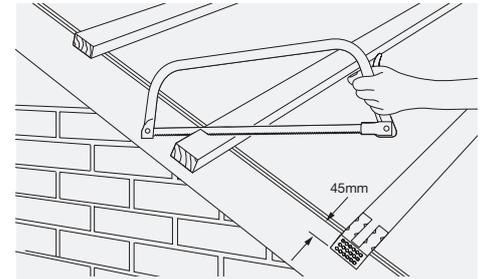

Fig. 1 – Position tiling battens with recommended overhang
- 2 Saw tiling battens off square to overhang bargeboard or brickwork by 50mm and coat the cut ends with a suitable timber treatment (Fig. 1). Install universal batten end clips to the ends of the battens in accordance with BS8612.